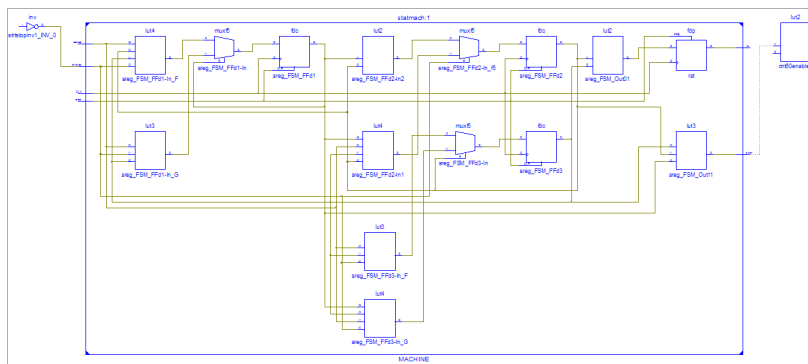

Figure 5-10: View Block Contents
1. Select the **MACHINE** block, and click the Show Block Contents button to see its entire contents as shown in Figure 5-10.